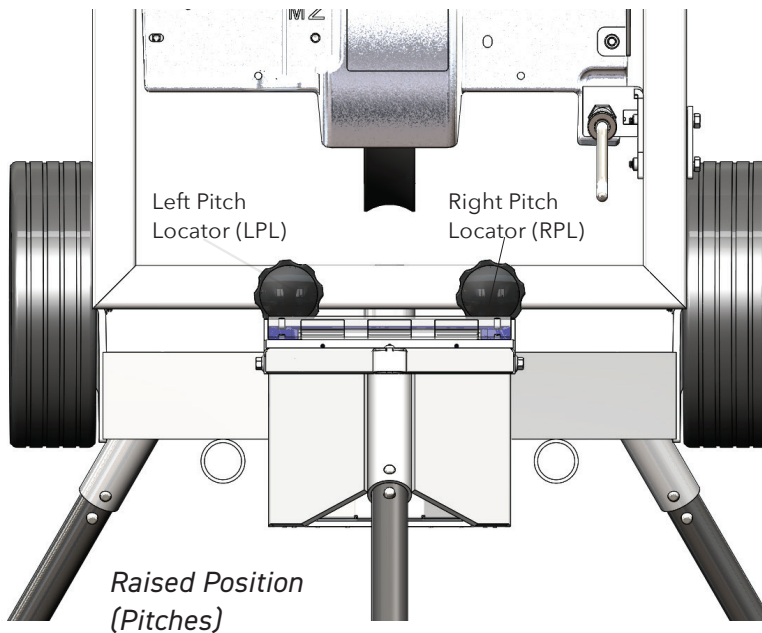

Figure 7
1. To locate pitch inside and outside for change in the hitters strike zone (See Figure 7).
2. Allow for wider pitches for catcher's blocking drills (See Figure 7).
3. To allow head to be locked in position for pitch location repeatability. (See Figure 7).